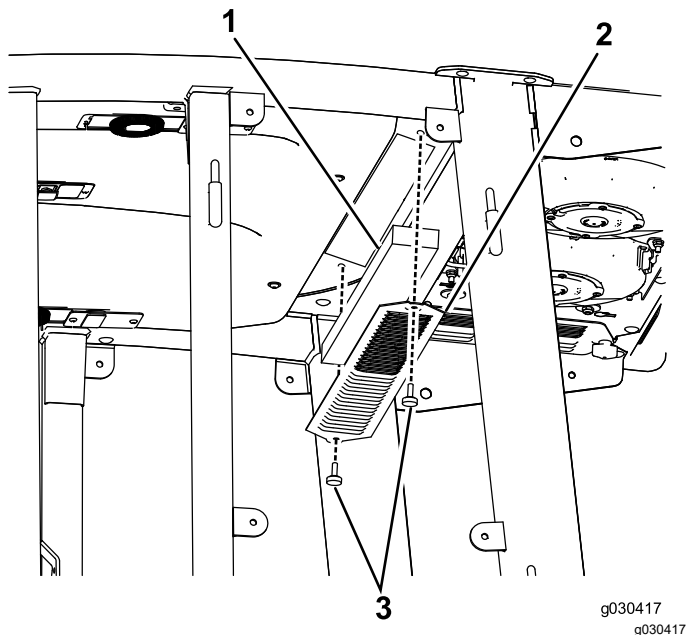
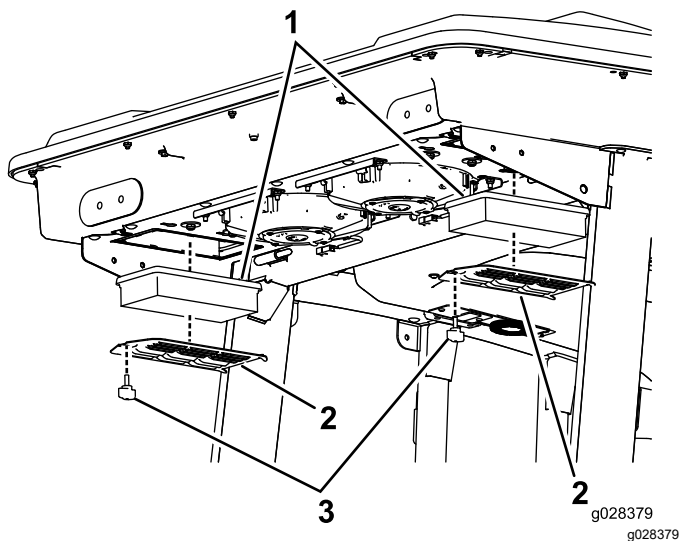
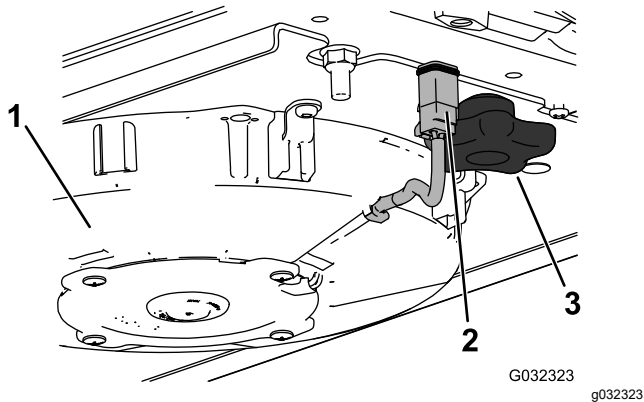

Figure 59
Figure 60
Figure 62
1. Remove the screws and grates from both the in-cab and rear cab air filters (Figure 59 and Figure 60).
2. Disconnect the wire for each fan (Figure 62).
3. Remove the 2 knobs and remove the fan assembly (Figure 62).
5. Remove the air filters (Figure 60).
7. Install the air filters, screen, and fan assembly (Figure 60, Figure 63, and Figure 62).
8. Connect the wire for each fan (Figure 62).